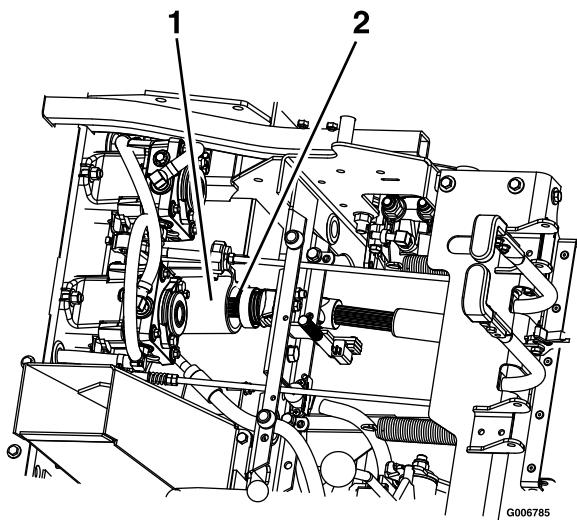

Figure 72
8. Raise the seat and disconnect the drive shaft using the quick coupler at the jackshaft (Figure 72).
3. Raise the seat and instal the 1 drive shaft onto the jackshaft (Figure 72)